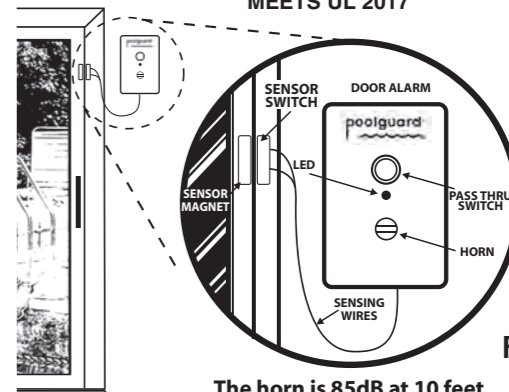

Figure 1
2. INSTALLING POOLGUARD DOOR ALARM (FIGS. 1 & 2)
4. OPERATING YOUR DOOR ALARM (FIG. 1)